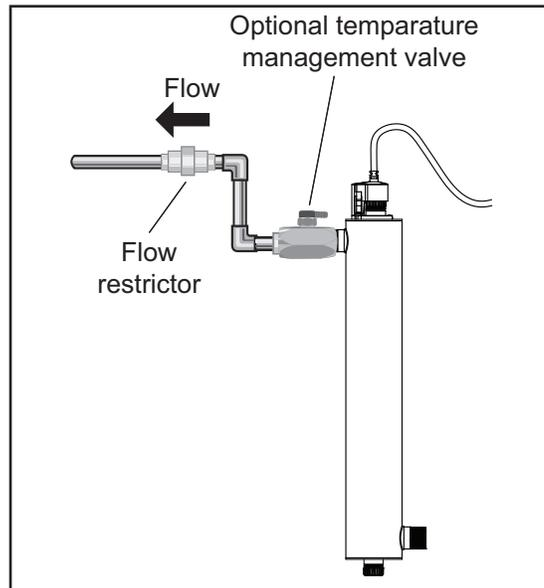

Figure 5 Flow Restrictor
3. Mount the system to the wall using the supplied clamps. Various connection methods can be used to connect the water source to the system, however union type connectors are recommended. The use of a flow restrictor device will help to maintain the manufacturer's rated flow. The flow restrictor should be installed on the outlet port and is designed to be installed in one direction only. Ensure that the flow of the water matches the flow direction as indicated on the flow restrictor. Refer to Figure 5.